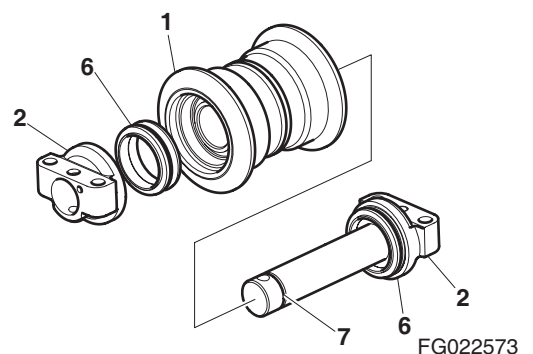

Figure 33
4. Insert floating seals (6, Figure 33) into the roller (1) and collar (2).